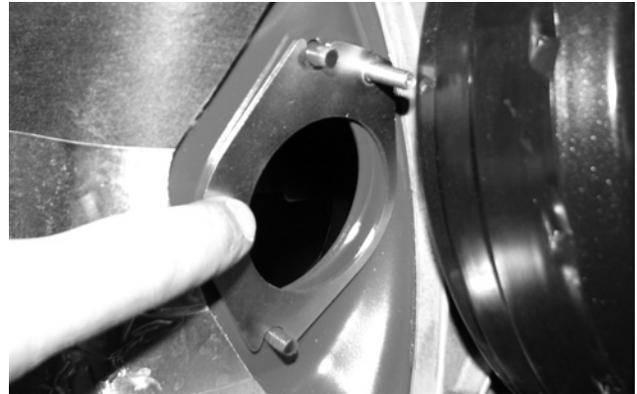

Figure 36
12. Modify wiring at fire wall as shown (fig 36).